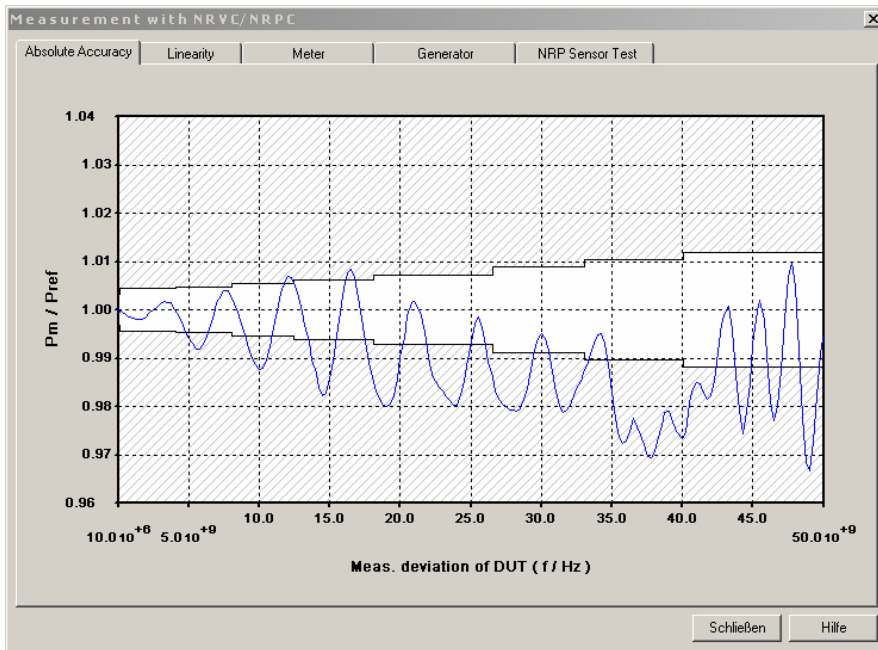

Fig. 4-3 Verification result for an R&S®NRPC50 power standard following damage to the RF connectors
Perform one or more measurement cycles (depending on requirement); otherwise proceed as described under **Checking the Absolute Accuracy**. The averaged trace must lie within the tolerance band shown in the graphical display. The tolerance limits are significantly tighter compared to a normal thermal sensor. If the trace rises or falls uniformly over all of the frequency range, this indicates a change in the sensitivity of the power standard or the verification sensor. An oscillating frequency response as seen in Fig. 4-3 indicates that the matching conditions on the RF connection have changed. In this case, a visual inspection is necessary and the connectors should be cleaned. If the ripple does not disappear despite cleaning the connectors of the verification sensor and the power standard, the RF connector for the power standard can be exchanged with the supplied replacement adapter ^{②①}. For a description of the steps required to do this, see the appendix under **Exchanging the RF Connector at the Test Port of the Power Standard**.